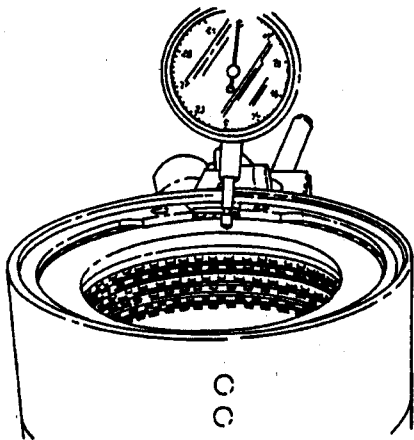

Figure 50.
3. Using a dial test indicator as shown in Figure 50, measure the end float of the pressure (end) plate, which should be 0.075 to 0.126 inches (1.90 to 3.20 mm). If necessary, install shim (140) to correct the end float between retaining circlip (139) and pressure plate (141).